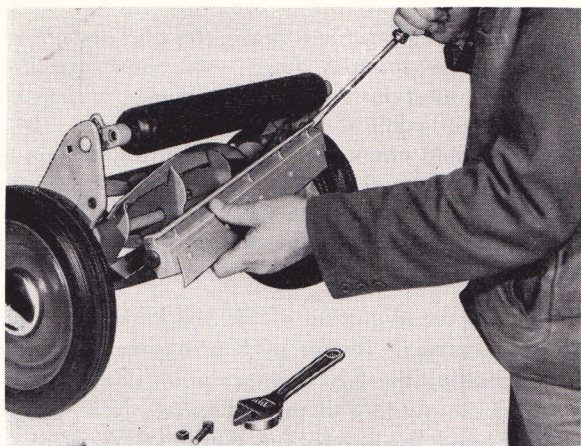

Fig. 8
55. The first step in the sharpening procedure is to remove the bed knife (sometimes called the straight blade, cutter bar, stationary blade and other names, we shall refer to it as the bed knife) from the mower. Most bed knives are held in the mowers by cap screws or nuts and bolts through the ends of the bed knife cast-back and the side frames of the mower. Relieve the pressure or tension on the bed knife adjusting screws before removing the end bolts. Put a few drops of oil on all screws or bolts removed or loosened, this will help in re-assembling and adjusting and will prevent rust. This practice will also make mowers easier to work on when brought to you for future sharpening jobs. After the cap screws or bolts are removed, use a large screwdriver or pinch bar to spring the side frames from the mower apart so that the bed knife can be removed (See Fig. 8). Some mowers are constructed differently and the above procedure would not fully apply. However after you have worked on a few mowers, you will be able to remove any bed knife, no matter how it is constructed, in a very short time. Be very careful that excessive pressure in springing the side frames is not used as there are cases where it will be necessary to relieve the bearing pressure on the reel to gain enough movement on the side frames for the removal of the bed knife assembly. On heavy duty mowers, most bed knives are easily removed without the necessity of springing the side frames.